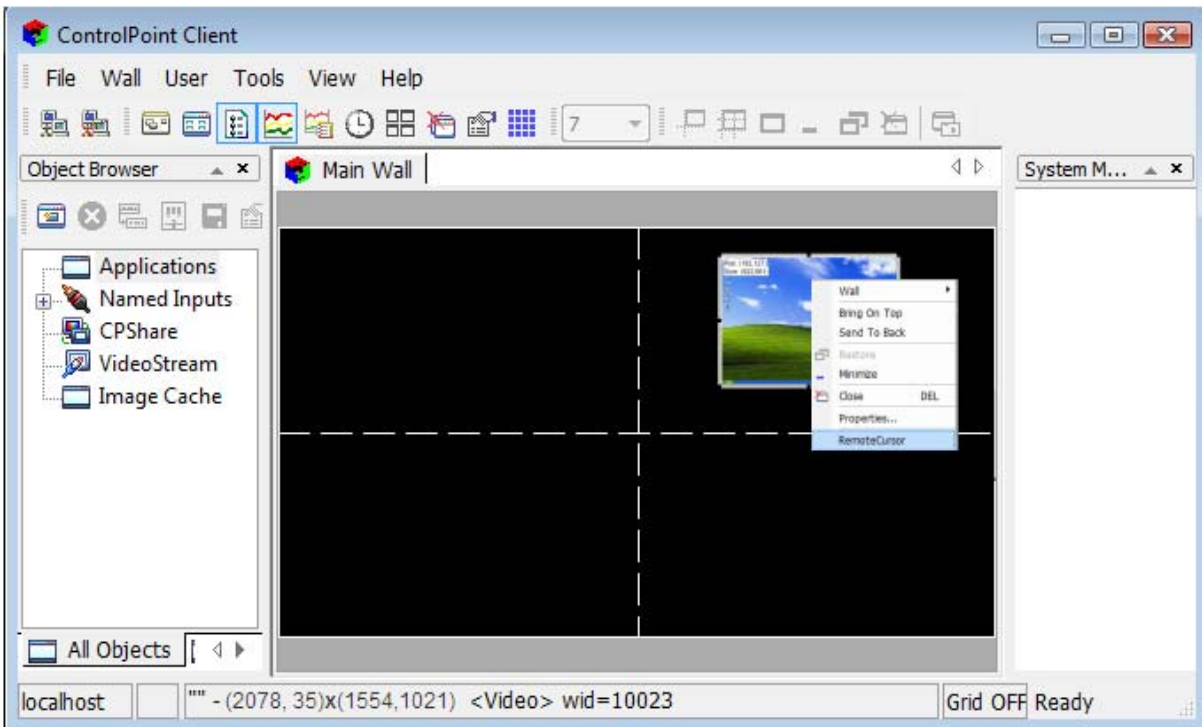

Figure 99 - DVI Capture Context Window—DVI Remote Cursor
- Working on the Fusion Wall Controller using the directly connected keyboard and mouse (refer to Figure 99).
If you return to the DVI Capture and use the context menu, you will see the Remote Cursor menu item active (refer to Figure 99) and not grayed out/disabled like before.